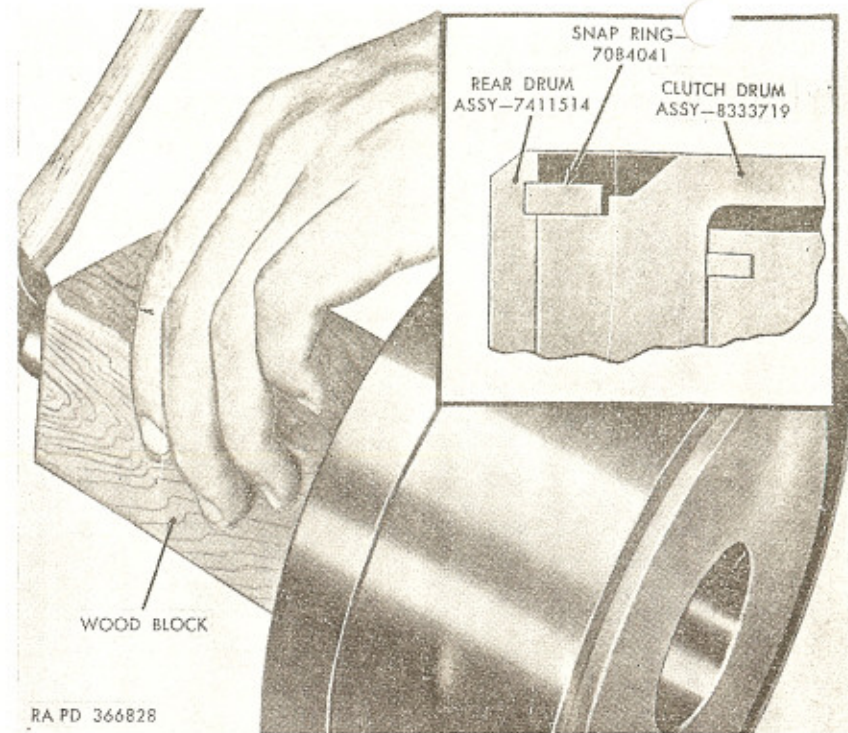
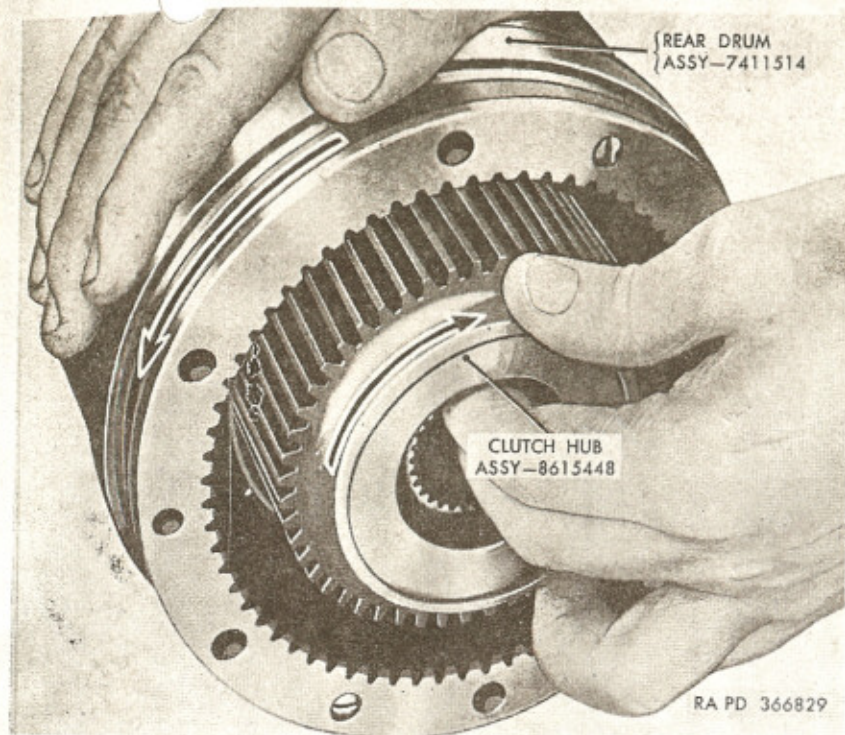

Figure 118. Seating clutch drum in rear drum.
Figure 119. Installing clutch hub.
l. Remove rear planetary unit from arbor press and place on bench. With wood block and hammer, tap clutch drum rear thrust face to seat clutch drum against snap ring (fig. 118).
n. Coat bronze thrust washer (N) lightly with artillery and automotive grease (GAA). Install thrust washer in deep counterbore of rear clutch hub (Q).
o. Install clutch hub (fig. 119) and thrust washer into clutch drive plates. Rotate hub and drum on bench in opposite directions to mesh splines of hub with teeth of clutch plates. When properly installed, clutch hub should be flush with or slightly below counterbore in rear drum assembly.